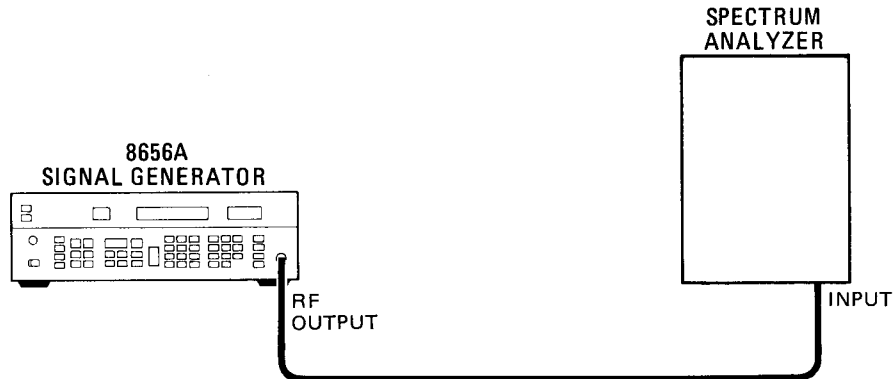

Figure 4-1. Spurious Signals Test Setup
3. Connect the RF OUTPUT of the Signal Generator to the input of the spectrum analyzer as shown in Figure 4-1. Verify that all harmonics are <-30 dBc, all non-harmonics 5 kHz from the carrier are <-60 dBc, and that there are no sub-harmonics as the frequency is incremented from 100 kHz to 990 MHz.